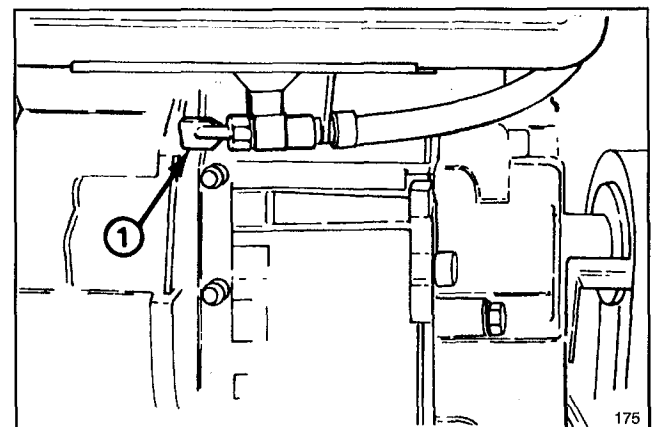

Figure 15
Fuel Shut-Off Valve (Fig. 15)—Valve is located under fuel tank. Close valve to stop fuel flow from fuel tank and open valve to allow fuel to flow to the carburetor. Close valve when snowblower is not used.
3. Open fuel shut-off valve below fuel tank (Fig. 15).